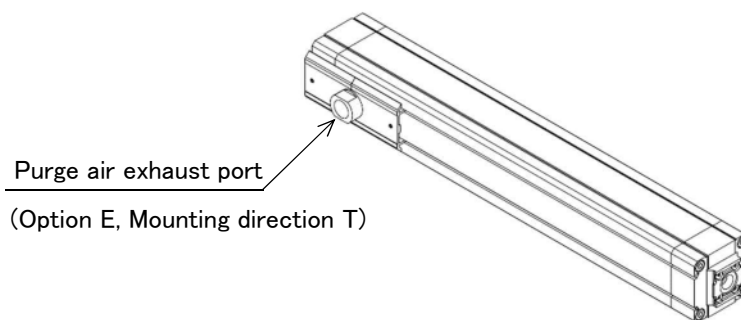

Fig.6
- 3) In case of the exhaust port, piping of exhaust air should use the hose or piping material of I.D. 8.9 mm or more, and give length as less than 2 m. (Refer to Fig.6)